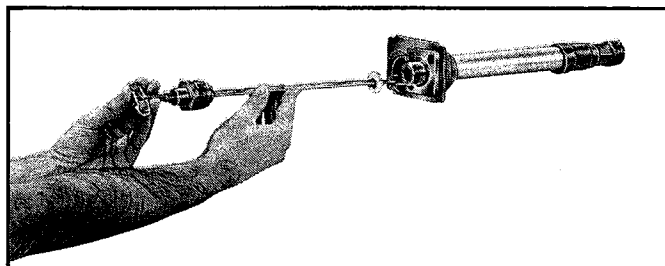

FIGURE 4
B. Use pliers. Firmly grip Cap Retainer (8) and turn counterclockwise to remove it, then remove Deflector Cover (7). Shut off hydrant as tight as possible with Control Key (1) and use an adjustable open end wrench or channel-lock type pliers to "break" Draw Nut (11) loose, then remove it with Control Key (1), turning counterclockwise until threads are free from Hydrant Head (12). Grasp Draw Nut (11) firmly and pull toward you to remove Actuator (2) and Actuator Rod (3). See Figure 4.